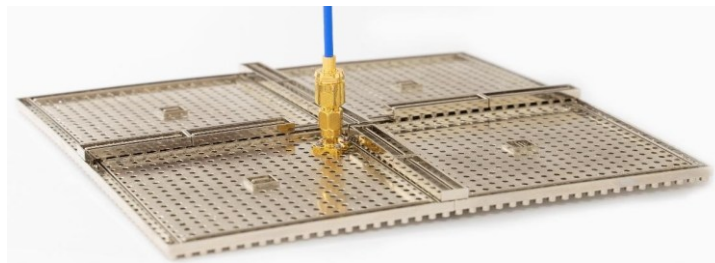

Figure 17 Connection to the connector at the ground plane of the NMHA
13. Connect the cable to the connector at the ground plane of the NMHA as shown in Figure 17.